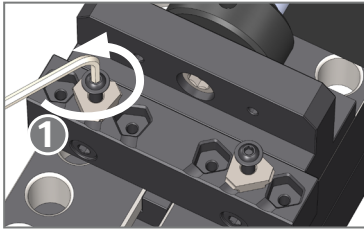

Fig. 5
**1. Undoing the stamping inserts** (Fig. 5, Item 1)